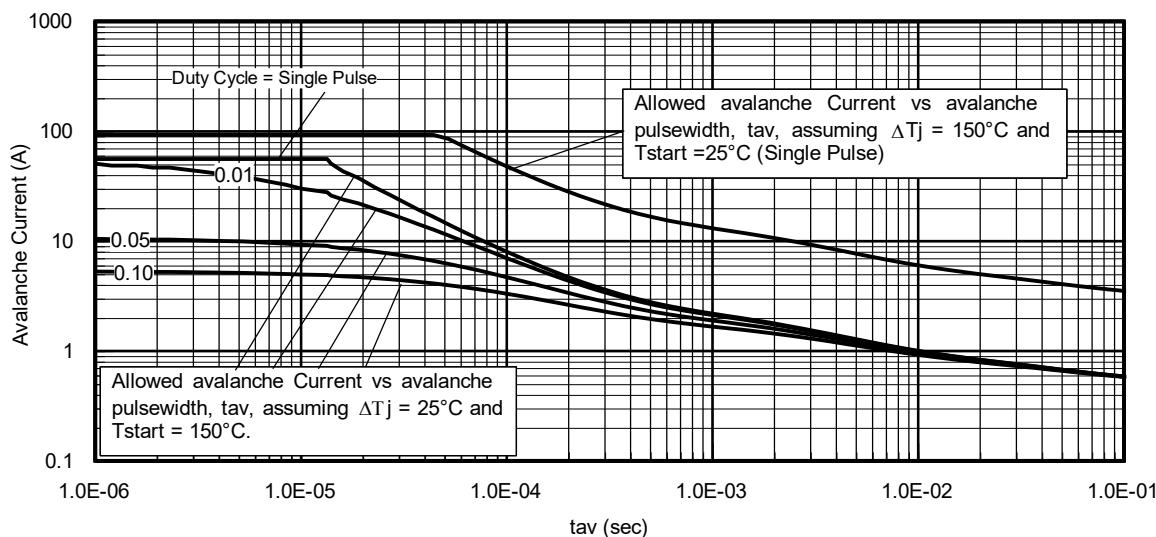

Fig 14. Typical Avalanche Current vs. Pulse
#### Notes on Repetitive Avalanche Curves , Figures 14, 15: (For further info, see AN-1005 at [www.irf.com](http://www.irf.com))
7.  $\Delta T$  = Allowable rise in junction temperature, not to exceed  $T_{jmax}$  (assumed as 25°C in Figure 14, 15).